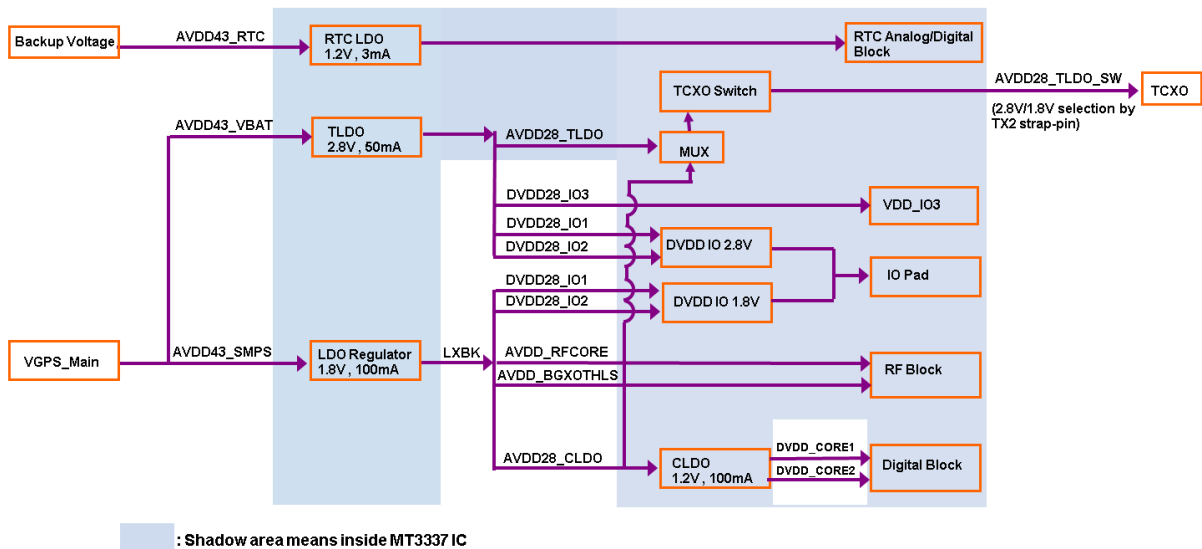

Figure 5-6: Power supply connection (low cost)
- Figure 5-6) and external PMU